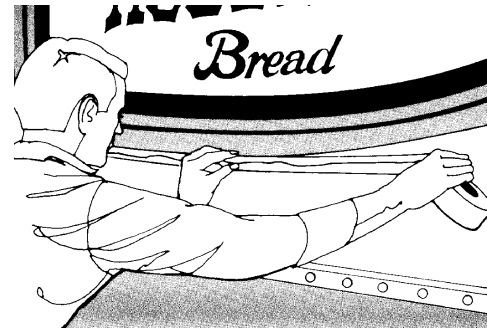

Figure 2. Making a Drip Tray
3. Make a drip tray using wide masking tape that has been doubled over and adhered immediately below the graphic. This prevents residue from dripping around the graphic. See Figure 2.
4. Make a drip tray using wide masking tape that has been doubled over and adhered directly below the graphic. This prevents residue from dripping around the graphic. See Figure 2, page 7.